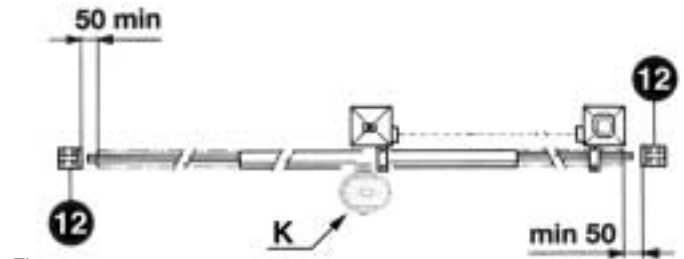

Fig. 2
- Besides the electrical or mechanical limit switches available on the operators, there must be, on both ends of the installation, a fixed mechanical stopper which stop the gate in the unlikely event of ill functioning of limit switches on the operators. For this reason the fixed mechanical stopper must be of an adequate size to withstand the static and kinetic forces generated by the gate (12) (Fig.2).
The guide must be provided with two mechanical stops at its ends (12) (Fig. 2).